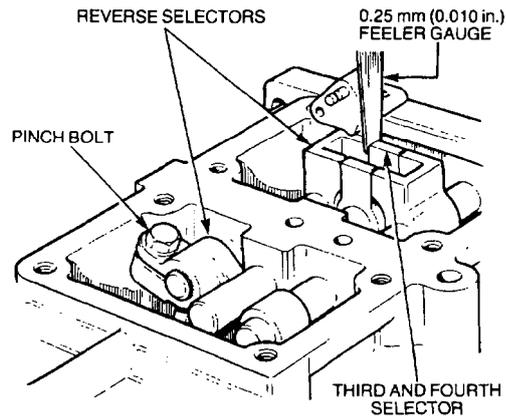

**Figure 180 Installing the First and Second Gear Selector and Selector Fork**
- kkk. Position the first and second gear selector in the transmission and install the first and second gear selector shaft, engaging the selector and selector fork as the shaft is pushed in fully (Figure 180). Secure the first and second gear selector fork with a new roll-pin. Secure the first and second gear selector with a new roll-pin (Figure 180).